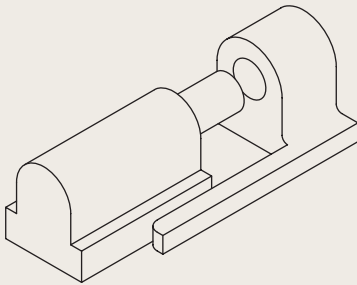
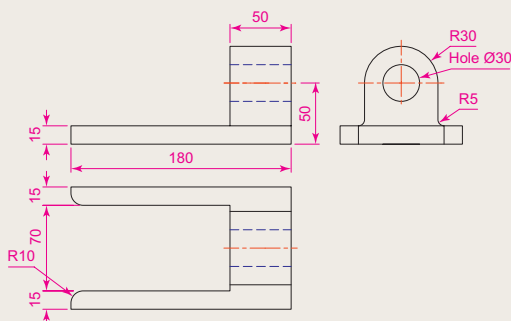

Fig. 7.23 Exercises 1, 2 and 3 – an isometric drawing of the three parts of the slider on which these exercises are based
Fig. 7.24 Exercise 1
Fig. 7.23 is an isometric drawing of a slider fitment on which the three exercises 1, 2 and 3 are based.
1. Fig. 7.24 is a first angle orthographic projection of part of the fitment shown in the isometric drawing Fig. 7.23. Construct a three-view third angle orthographic projection of the part.